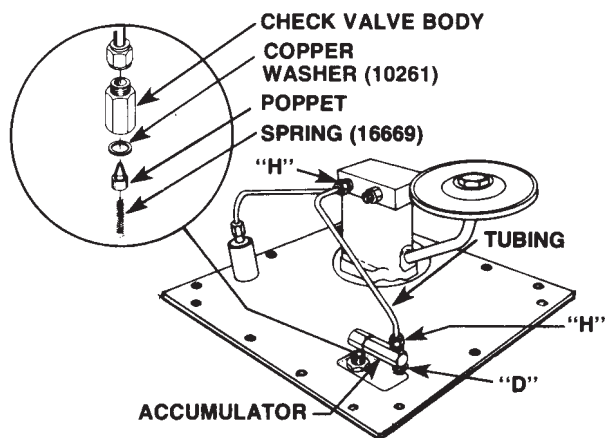

FIGURE 7
5. Remove the poppet (see Figure 7 Inset) and insert the supplied Spring, (Part Number 16669, [.032" dia. wire \times 1 $\frac{1}{4}$ " lg.]) in the poppet. Replace the copper washer with the supplied Copper Washer, Part Number 10261.
6. Reassemble the poppet, new copper washer, spring and valve body as shown in Figure 7 Inset and tighten securely.
9. Assemble the adapter into the threaded hole that the pipe plug was removed from. (See Figure 7.)
10. Insert the pipe nipple (Figure 7, Item "D") into the threaded hole located in the valve pad on the cover plate.
11. Position the accumulator as shown in Figure 7 and screw the accumulator onto the pipe nipple.
12. Assemble the $\frac{3}{16}$ " tube assembly as shown in Figure 7. Tighten the fitting nuts "H" securely but do not over tighten.